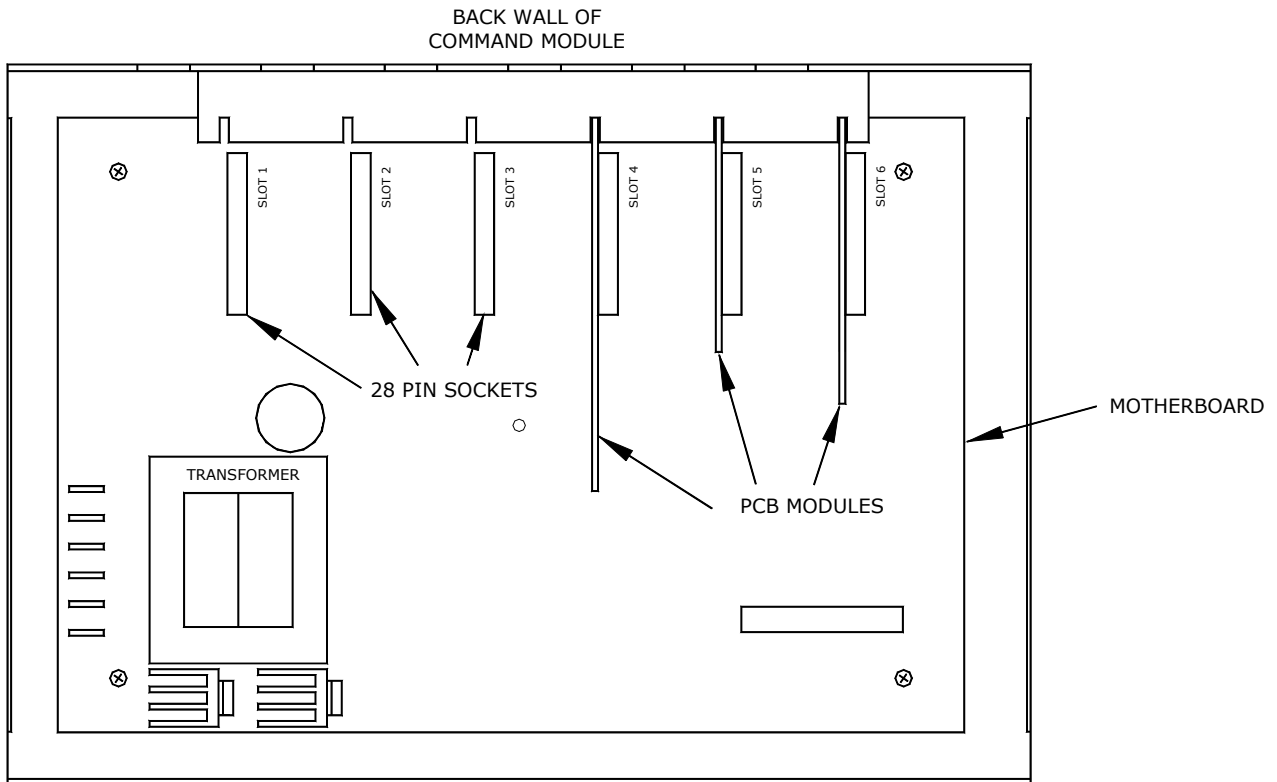

Figure 9
6. With no power connected to the Command Module, install the CD Changer PCB Module, MoodLight PCB Module and Phone PCB Module in the slots on the motherboard in the (options ordered will determine which boards you will be required to install). Each module can be installed in any of the slots along the back wall of the motherboard as long as the PCB Module will fit. **IT IS VERY IMPORTANT** that the pins of the PCB Modules are lined up properly and each pin fits into each socket on the motherboard or the system may be damaged (see Figure 9). The Steam Control PCB Module and Proportional Heating PCB Module will already be pre-installed in the Command Module.